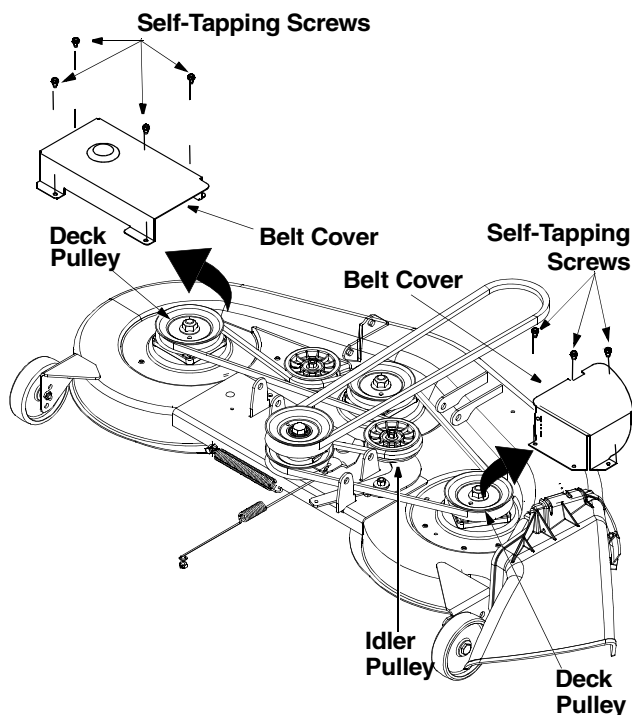

Figure 21
- Remove the belt cover at the two outside deck pulleys, by removing the self-tapping screws. See Figure 21 .
- Remove the belt from around the idler pulleys, and remove from the three deck pulleys. See Figure 21 .